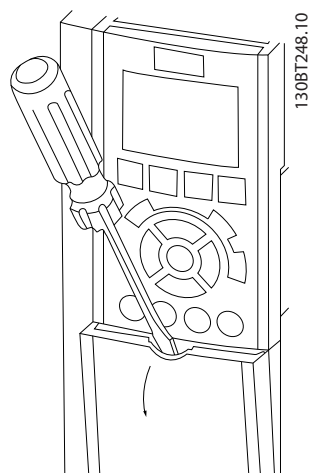

Figure 2.17 Control Wiring Access for A2, A3, B3, B4, C3 and C4 Enclosures
- Remove access cover plate with a screw driver. See *Figure 2.17*.